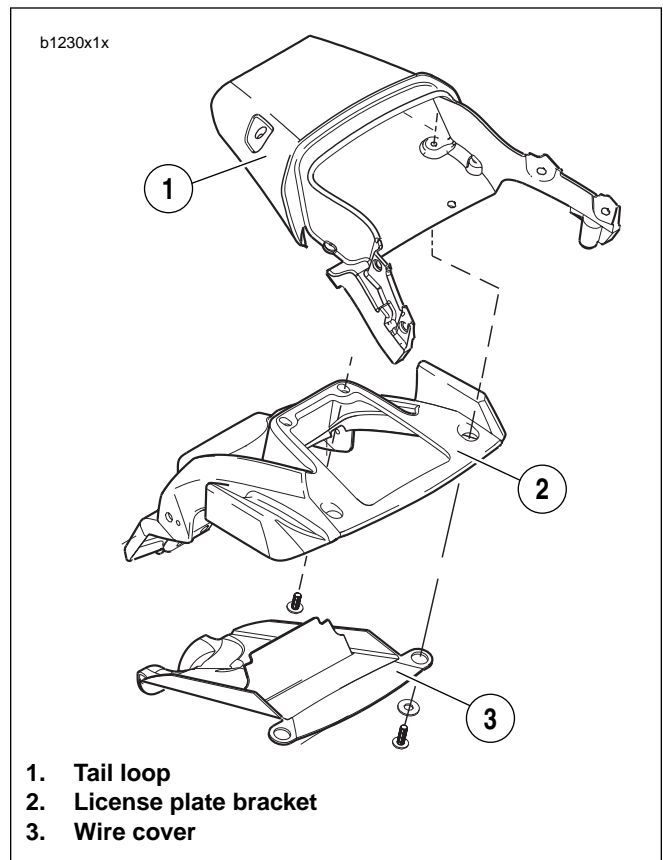

Figure 2-130. Wire Cover/Tail Loop/License Plate Bracket
3. See Figure 2-130. Remove two fasteners securing trunk pan to center tail loop (1).
5. See Figure 2-130. Remove wire cover (3) on bottom side of license plate bracket (2) in order to access wires.
7. Remove two fasteners (10) securing trunk pan to center tail loop.